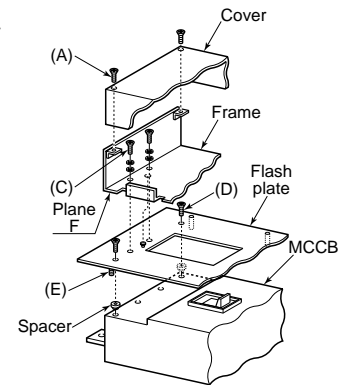

Fig. 4
- a) Detach the four cover mount screws (A) to remove the cover.
- b) Fasten the electric operation type circuit-breaker using the four breaker mount screws (B).
- d) Fix the cover with the four cover mount screws (A).
- (iv) Flush plate type (refer to Fig. 4) ( U-series)